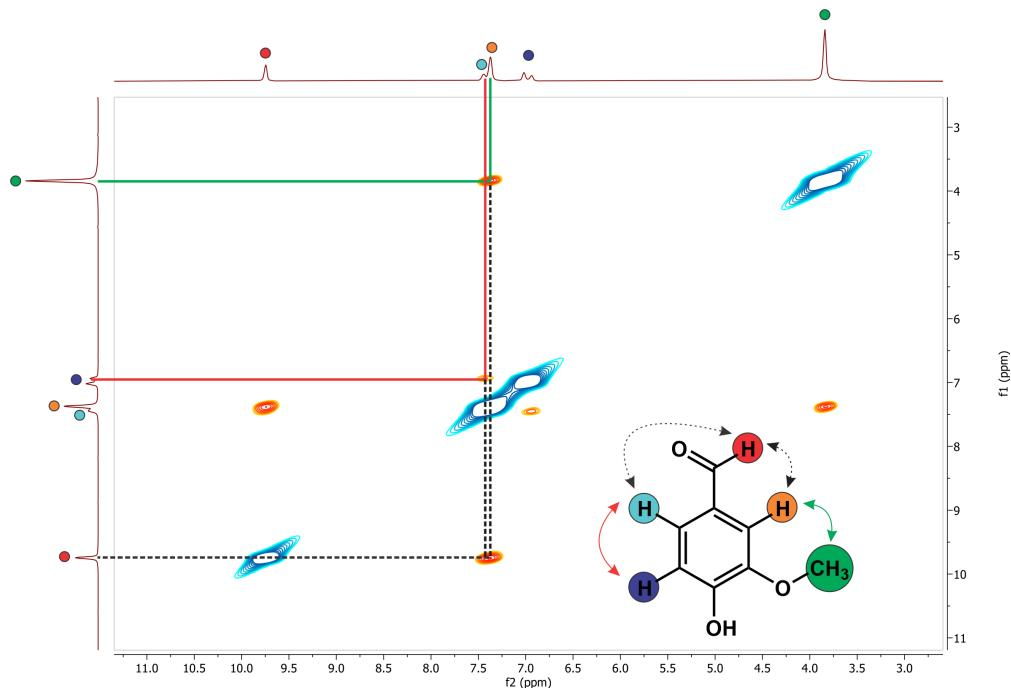

Figure 9.11: Example NOESY spectrum.
- We have two identical ^1H NMR experiments on the top and left sides of Figure 9.11. All of the peaks are labeled by the hydrogen(s) to which they correspond.